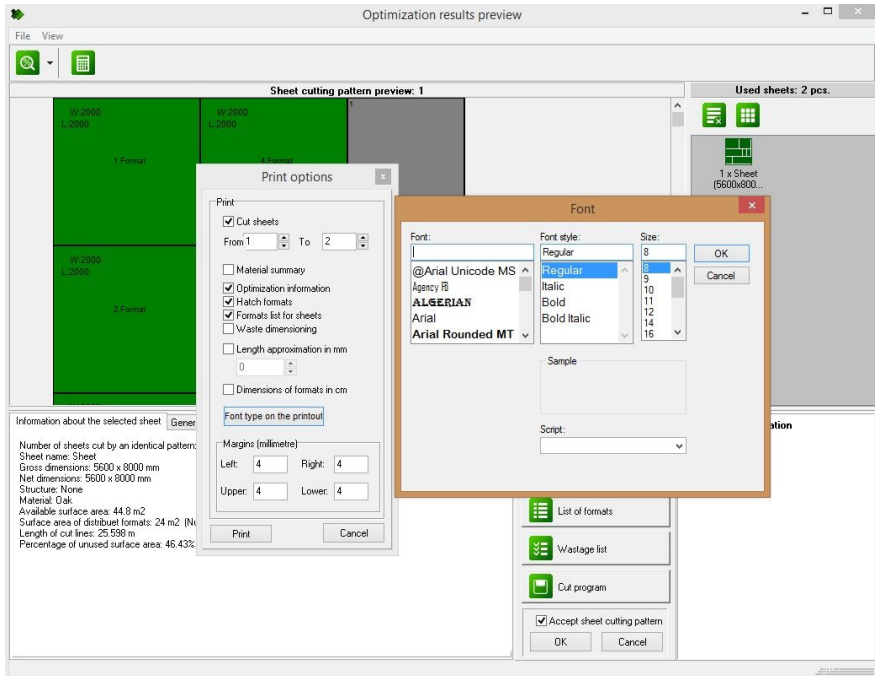

Fig. 79 – 'Print options' window, font selection
- **'Print optimization report [Ctrl + P]'** – opens the **'Print options'** window (Fig. 79); after setting them you can print all obtained images of optimal cutting patterns with their descriptions.